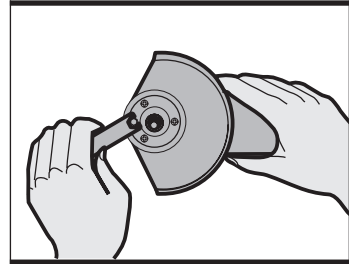

Fig 6
To move the guard you must release the guard lock bolt (8) using the other end of the special spanner (See Fig 6). The guard can then be rotated to provide maximum protection against sparks and debris. Finally, tighten the guard bolt (8).